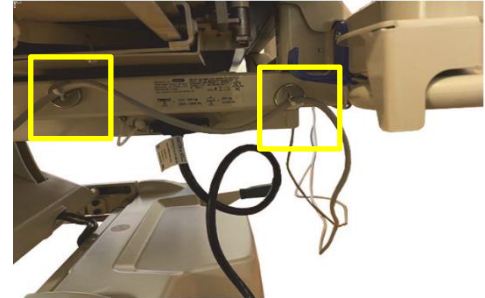

Fig. 2- Power Cord Magnets
4. Use the magnets on the power cord to keep the power cord attached to the metal frame of the bed and off the floor. (Fig 2)